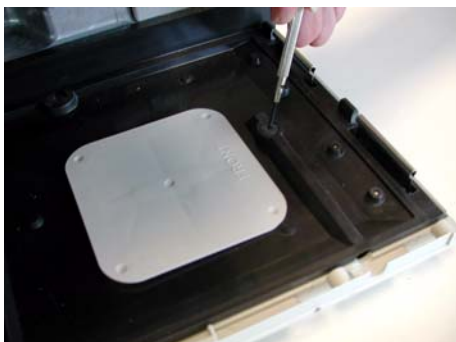

Figure 6 Removing the rubber plugs
- 6** Remove the two rubber plugs by use of a small, spiky screw-driver or tweezers (see Figure 6).